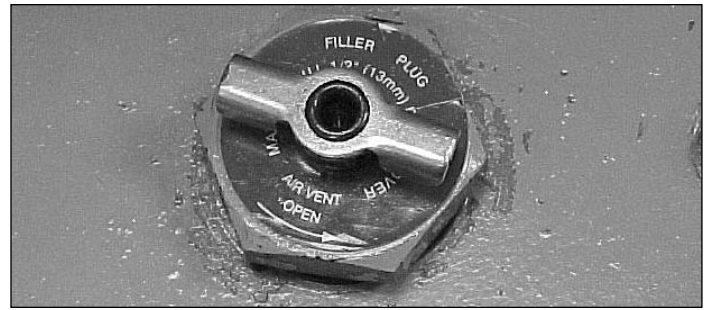

Figure 4
2. Turn air vent screw counterclockwise two or three turns. (See Figure 4)